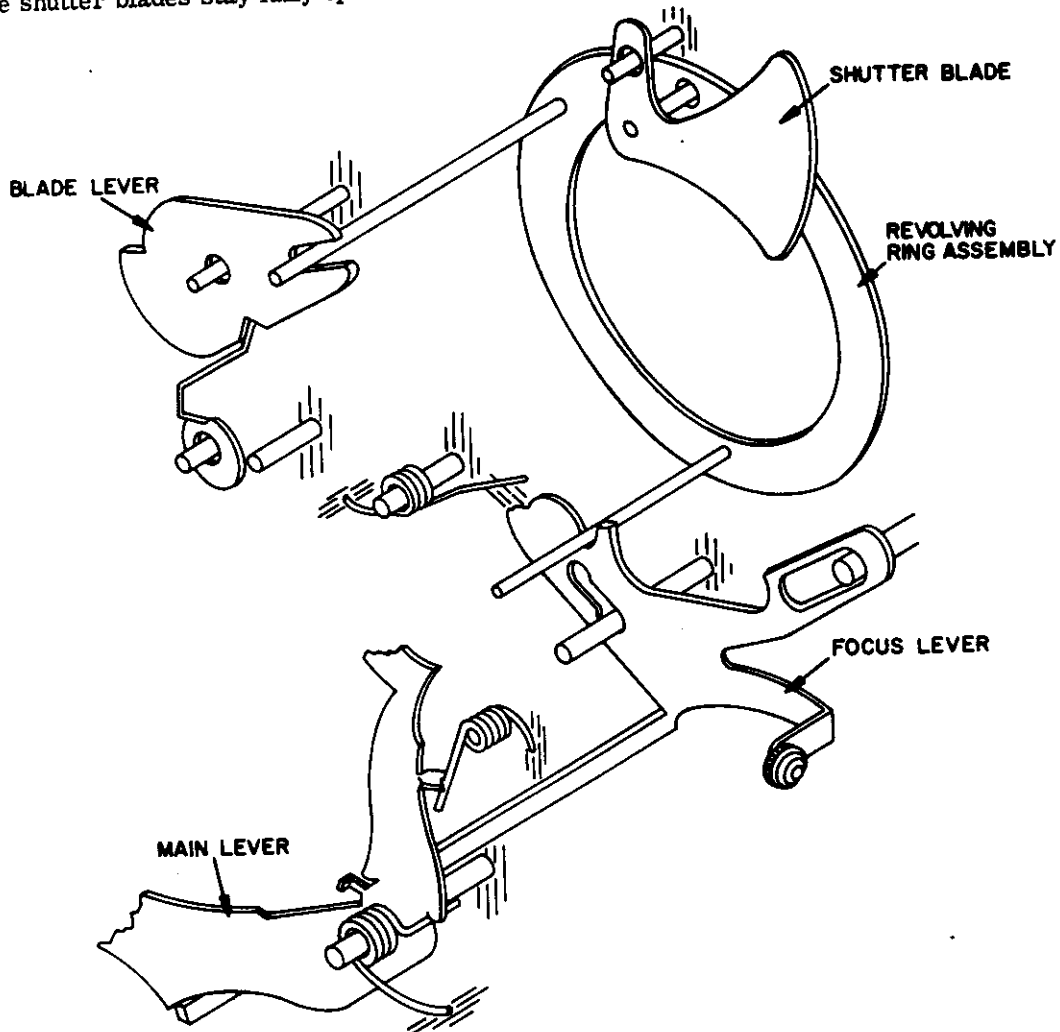

Figure 4. BLADE CLOSING MECHANISM
5. Press Focus Operation (fig. 4)